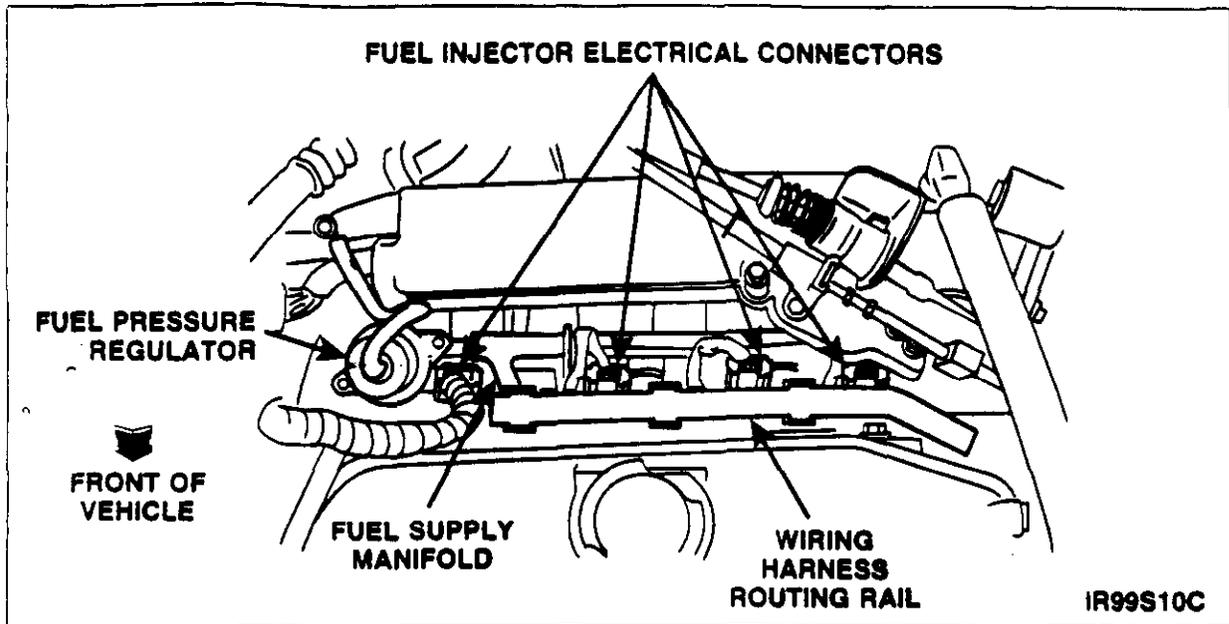

**FIGURE 2**
5. Disconnect the CKP sensor wiring harness retainer from the bracket. See Figure 2.